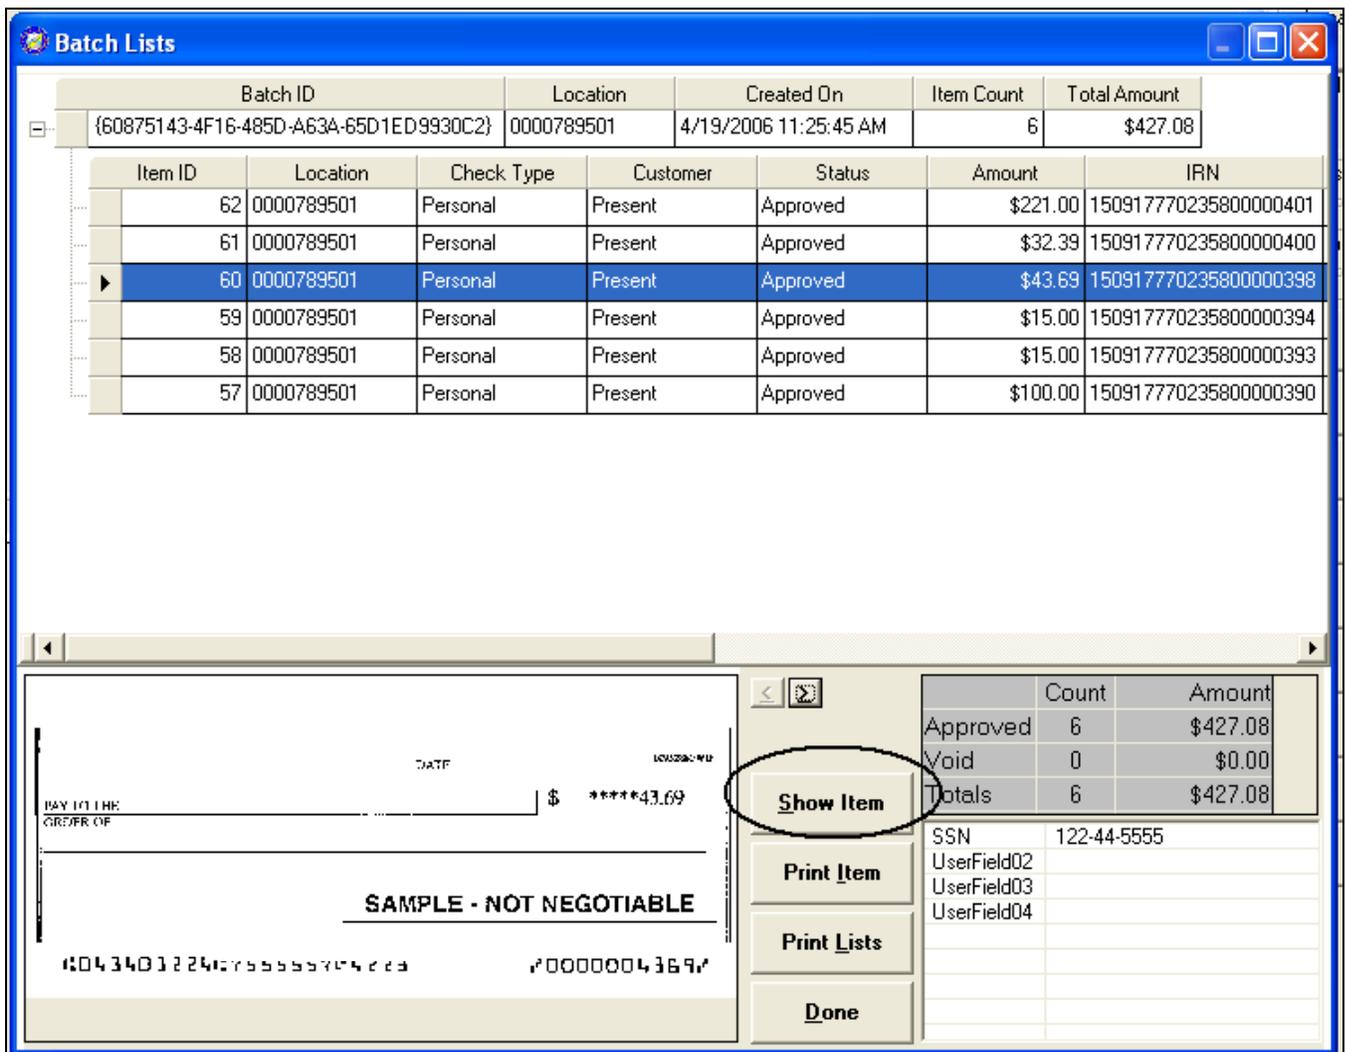

Figure 6.45
3. Click to highlight the item for which the receipt is to be printed, then click the ‘**Show Item**’ button (Figure 6.45)